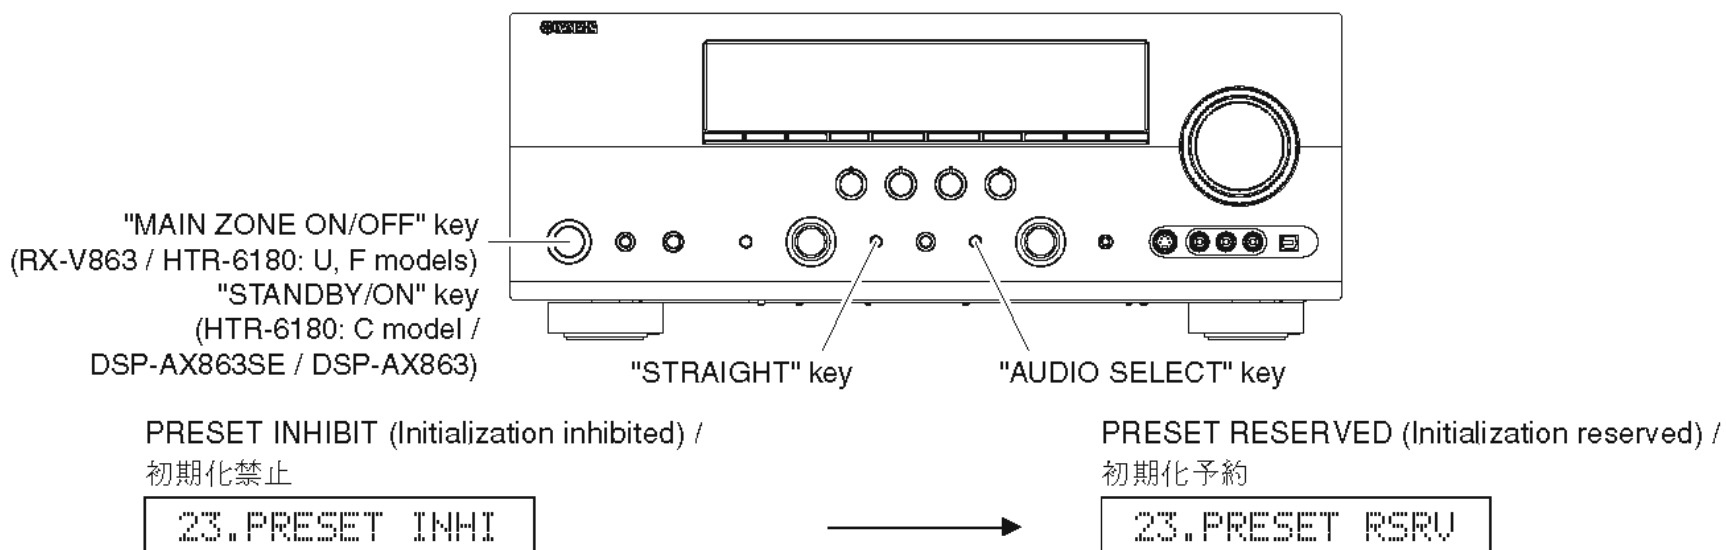

Fig. 4
2. Press the "MAIN ZONE ON/OFF" (RX-V863 / HTR-6180: U, F models) / "STANDBY/ON" (HTR-6180: C model / DSP-AX863SE) key while simultaneously pressing the "STRAIGHT" and "AUDIO SELECT" keys. (Fig. 4)
2. “STRAIGHT”キーと“AUDIO SELECT”キーを押しながら、“STANDBY/ON”キーを押し、ダイアグを起動します。(Fig. 4)